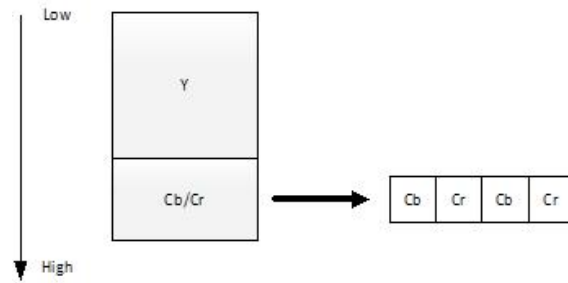

Fig. 8. Layout Y + Mixed CbCr
Layout Y + Mixed CbCr is YCbCr hybrid format with 4 : 2 : 0 subsampling. There are two planes: Y, Cb/Cr. Luminance plane (Y) has the same size as original image. Each chrominance value corresponds to one block (2 rows by 2 columns) of original image. Combined Cb/Cr plane contains alternated Cb and Cr pixels. So Cb/Cr plane width is equal to original image width and its height is downscaled by two times. Figure 8 shows color planes in memory array.